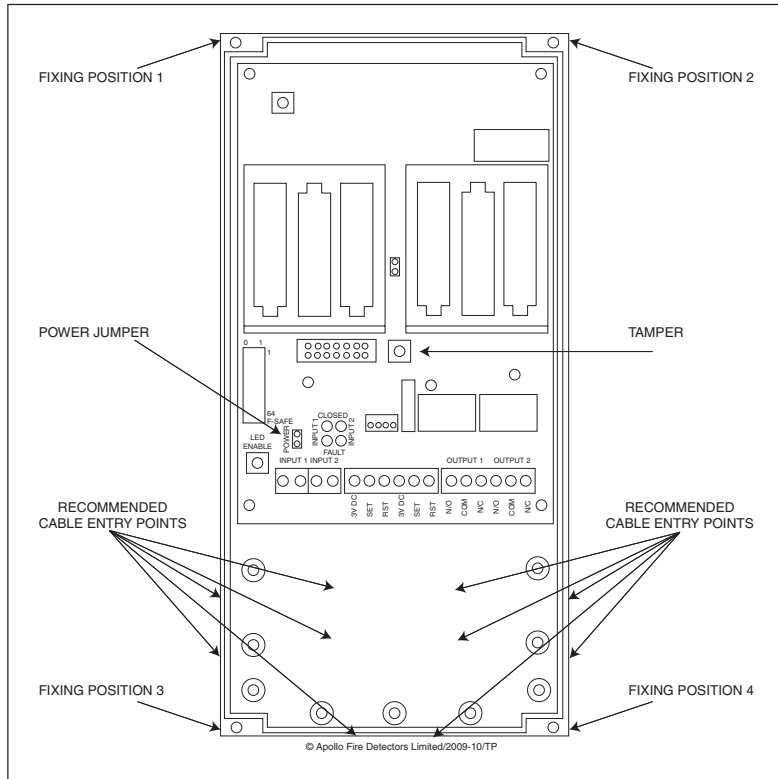

Fig 1 - XPander I/O enclosure
- Calculate the number of cable entries and drill holes for cable glands in the lower portion of the enclosure accordingly (Fig 1). Remove and replace the PCB if necessary using anti-static precautions to avoid damaging the electronics.
- Mount the XPander I/O enclosure using suitable fixings (No. 6/3.5mm screw clearance, see Fig 1 for fixing positions) and connect all wiring.